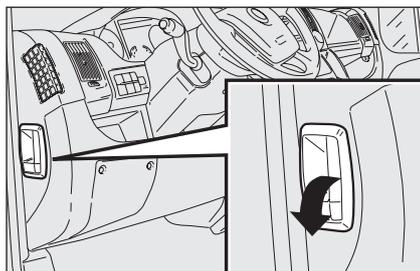

fig. 120
- pull lever **fig. 120** in the direction of the arrow;